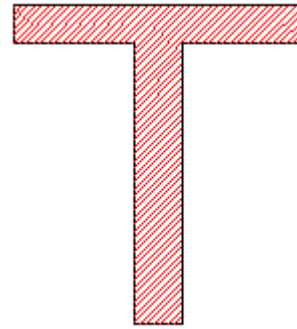

Figure 3-6 Degrees
**Angle:** Hatch Angle stands for the angles between hatch lines and X axis, and Figure 3-6 is the feature when the angle is 45 degrees.